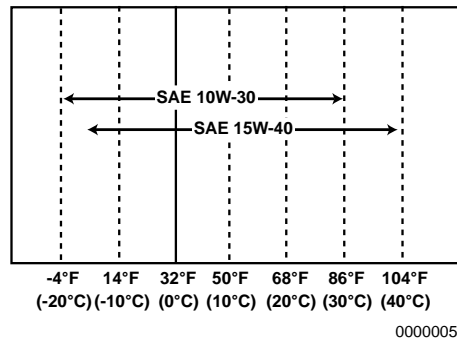

Figure 5
3. **Select the oil viscosity based on the ambient temperature where the engine is being operated. See the SAE Service Grade Viscosity Chart (Figure 5).**
Select the appropriate engine oil viscosity based on the ambient temperature shown in the SAE Service Grade Viscosity Chart in Figure 5.